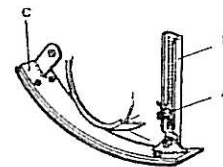

Fig. 24
Fig. 24 illustrates the attachment of a skid. Slacken nut (A) on the adjusting bar (B), position the skid (C) to the required depth of work and re-tighten the nut.